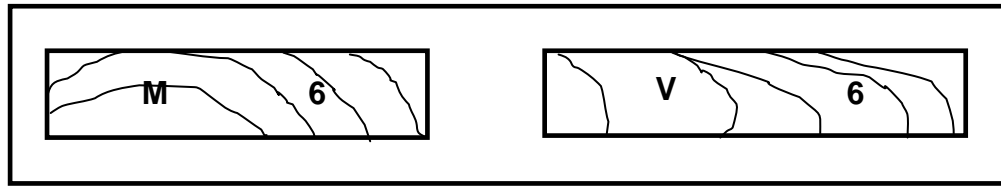

FIGURE 4.10
4.10 FIGURE 4.10 below shows two graded wooden planks.